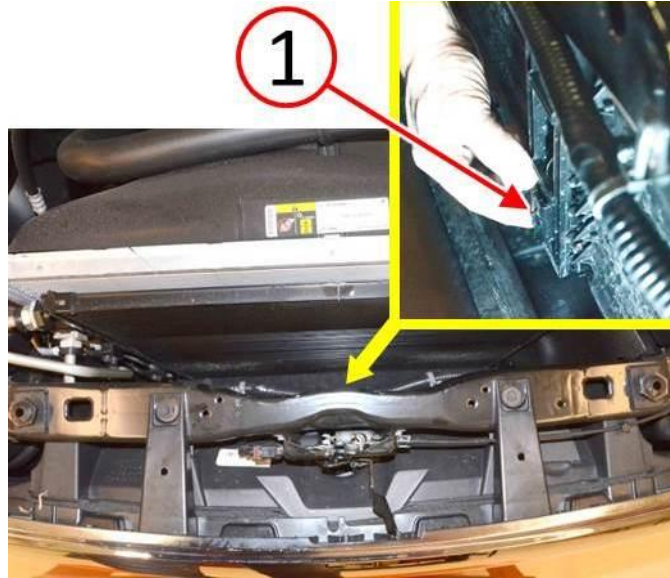

Fig. 2 Locate AGS Actuator Motor Case Housing
3. Locate the AGS actuator motor case housing (1) (Fig. 2).